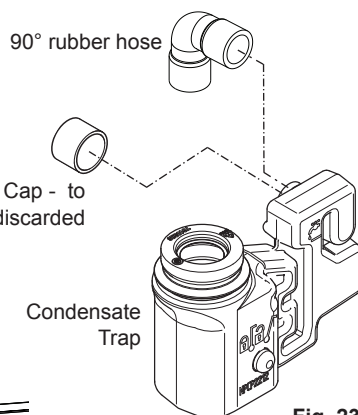

Fig. 23
5.4.4 Filling the Condensate Trap (Fig. 23)
5.4.5 Connecting the Condensate Drain (Fig. 23)